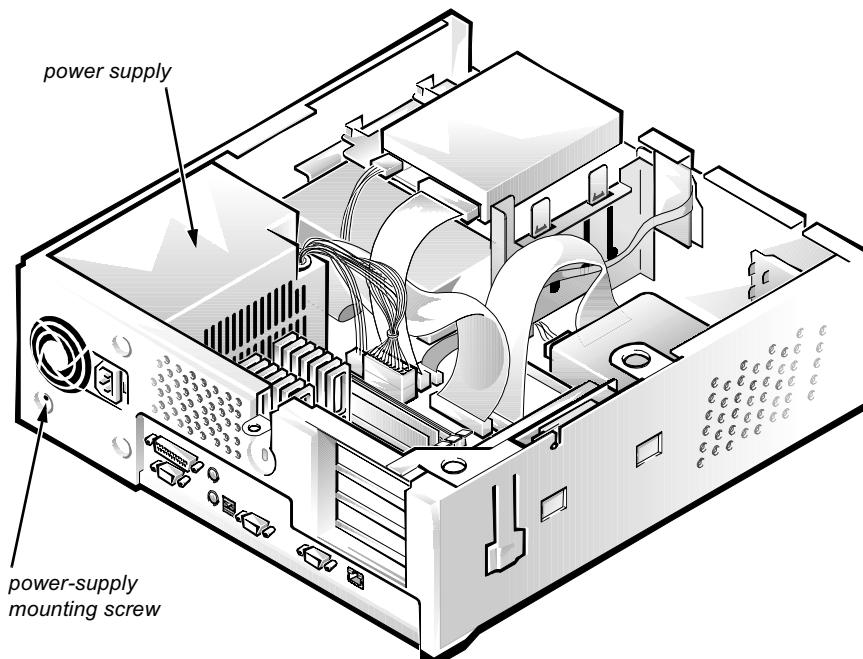

Figure 4-12. System Power-Supply Removal
- 1. Disconnect the control panel cable from the PANEL connector on the system board (see Figure 4-12).**